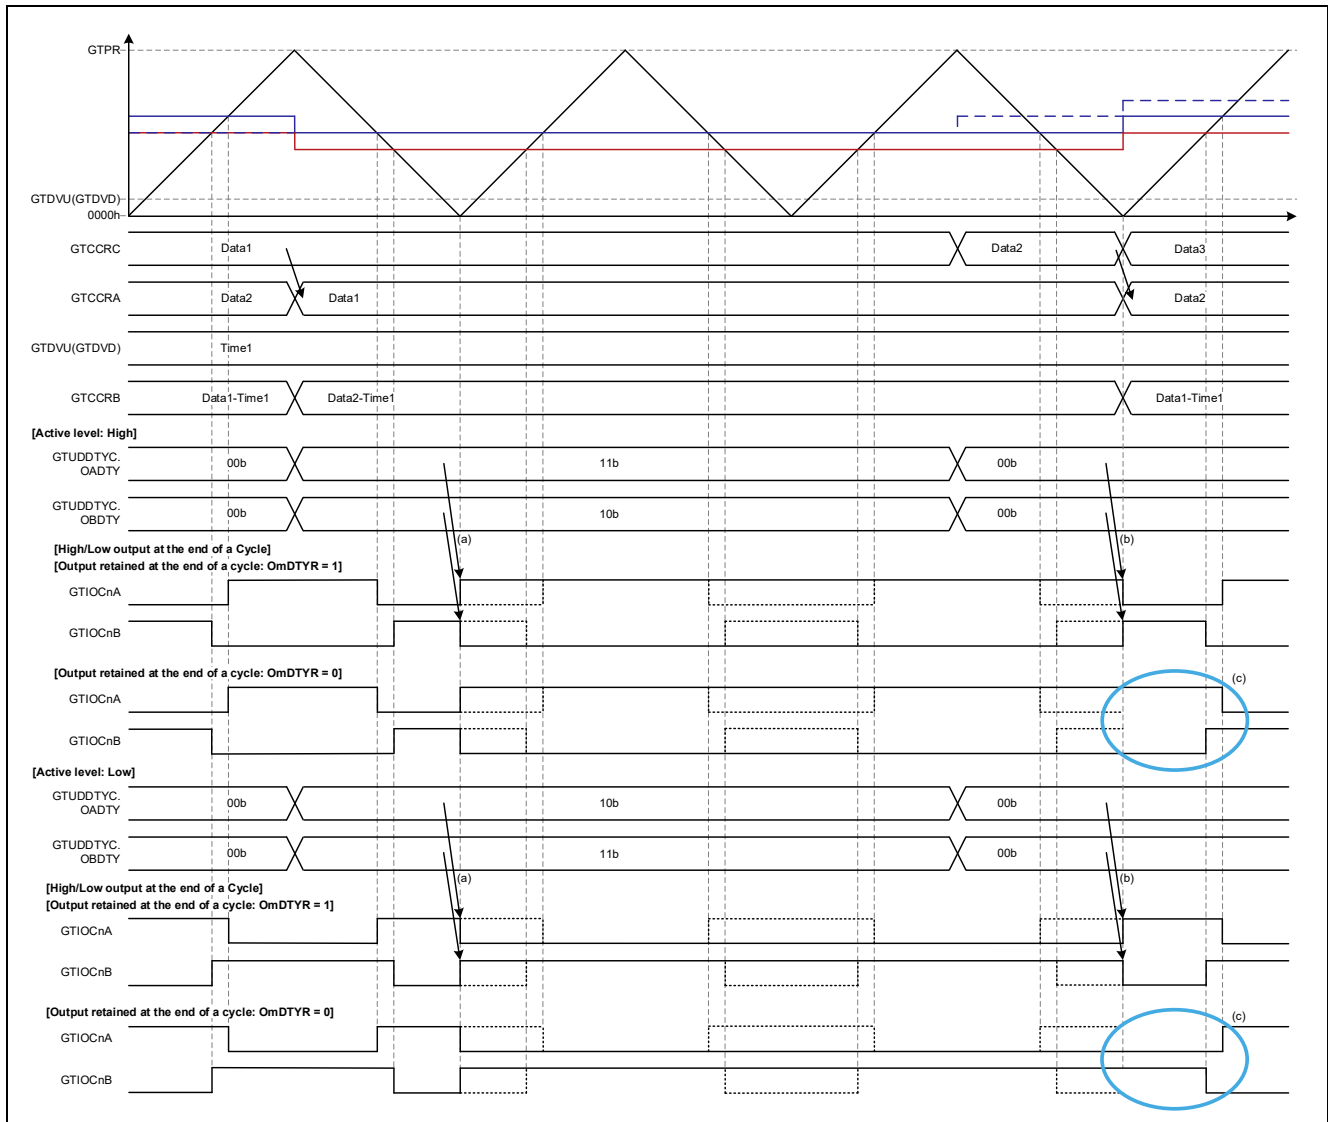
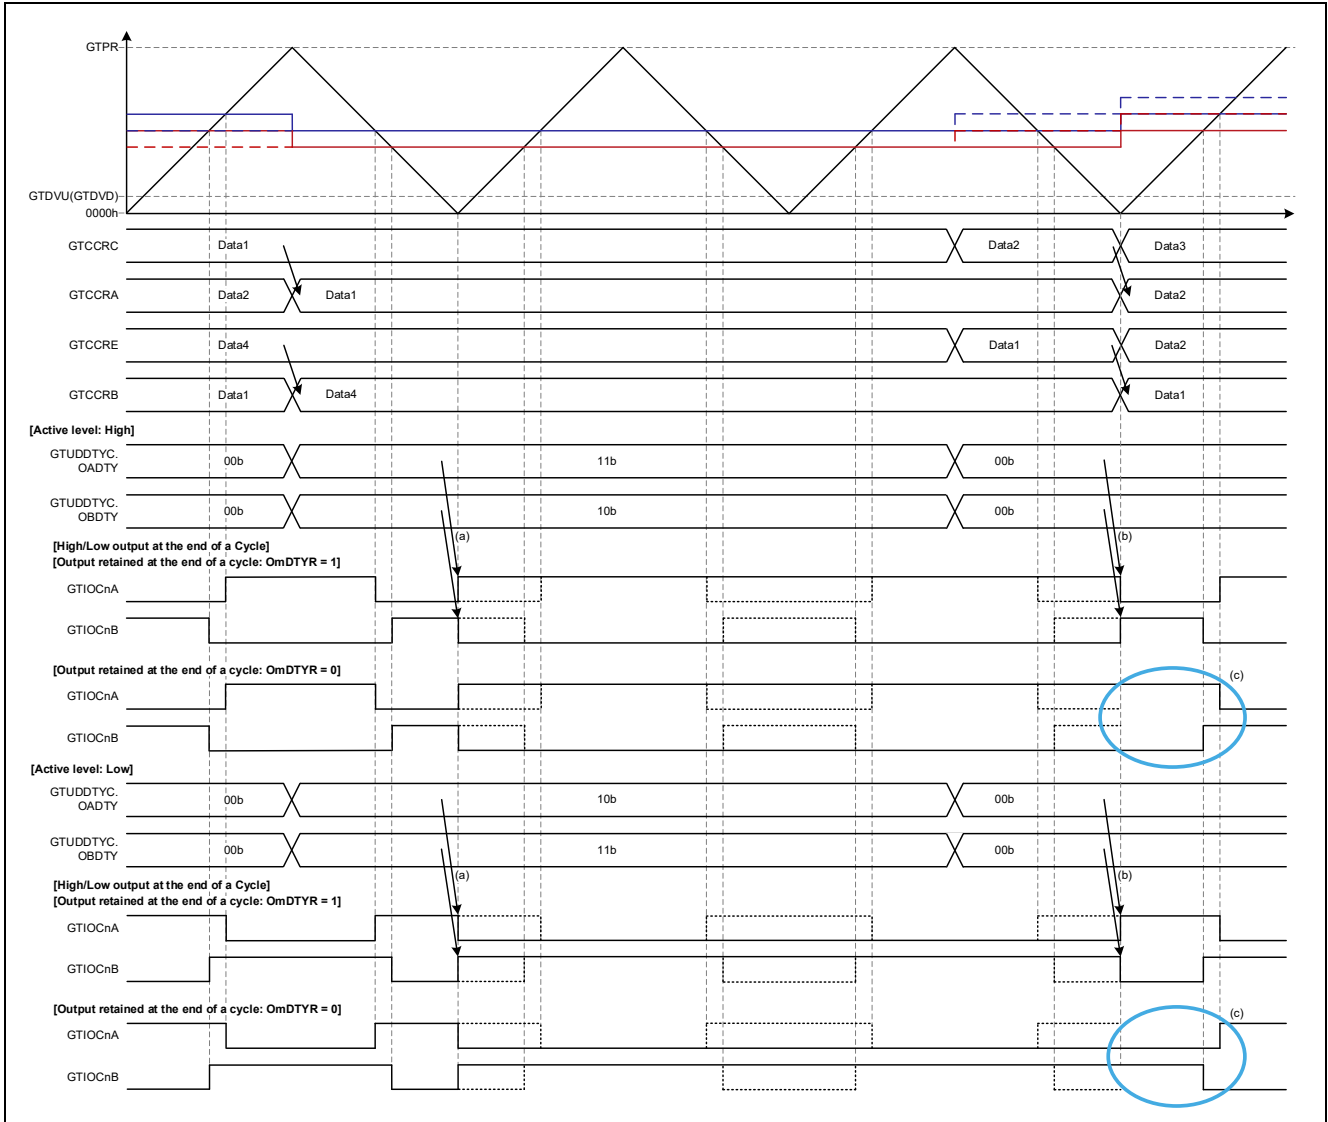

Figure 1.17 Triangle-Wave PWM Mode 2 Operation Example
Figure 1.18 Triangle-Wave PWM Mode 2 Operation Example
- [Operation example 3] Figure 1.17, Triangle-Wave PWM Mode 2, Output Start: Trough, Automatic Dead Time Setting Function Enabled
- [Operation example 4] Figure 1.18, Triangle-Wave PWM Mode 2, Output Start: Trough, Automatic Dead Time Setting Function Disabled
Figure 1.17 shows an operation example with the automatic dead time setting function enabled in triangle-wave PWM mode 2.
Figure 1.18 shows an operation example with the automatic dead time setting function disabled in triangle-wave PWM mode 2. Except for the operation of the GTCCRB and GTCCRE registers, the operation is the same as that shown in Figure 1.17.